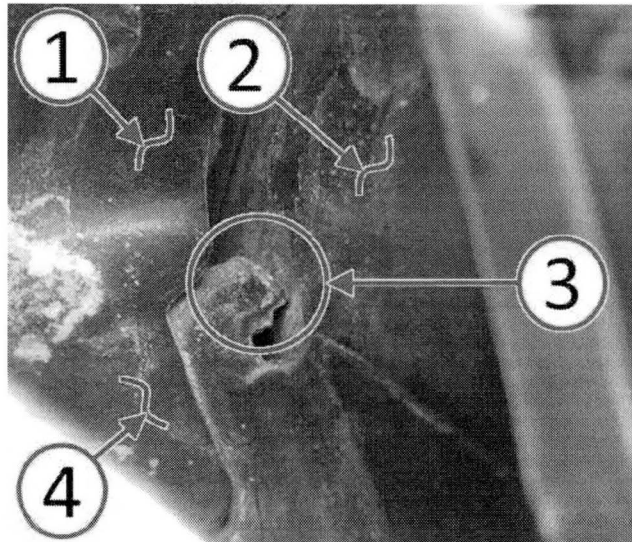

Fig. 2 Close Up Of Contact Area Under The Cowl Panel Cover
3. With a flashlight, look for a touch condition (metal to metal contact) of a sheet metal tab (3) contacting the body inner panel (2) at the outboard ends (rear corners) of the plenum (1, 4). The contact area will be under the hood hinge on the side of the vehicle where the noise was most noticeable (Fig. 2).